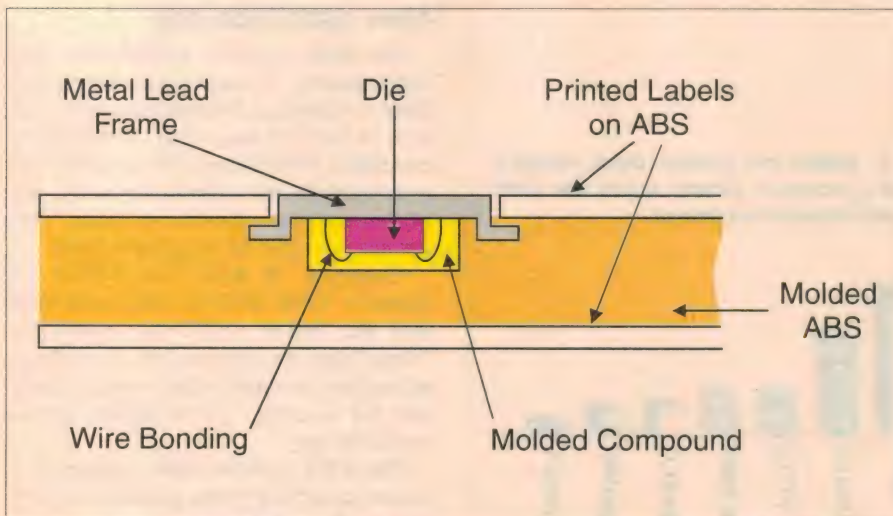

Fig.3: An alternative approach is to use a metal lead frame to protect the die, and mould the card around the micromodule. (Courtesy Atmel)
2. Using a metal lead frame and molded compound to protect the die mechanically before encapsulation. The ABS plastic forming the plastic body of the card is then molded around the micromodule (Fig.3). This is the closest way of manufacturing a smart card to classical integrated circuit packaging.